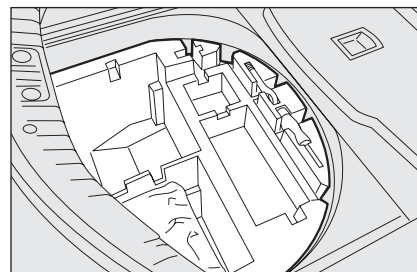

fig. 3
- ☐ for versions equipped with “Quick tyre repair kit Fix&Go”, take out the tool container **fig. 3** from the boot;